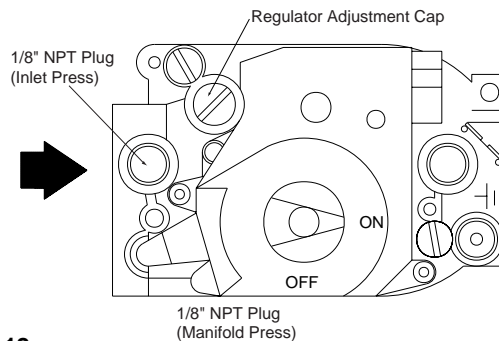

Figure 12.
3. Remove 1/8 in. NPT plug on the outlet side of the valve and screw in the fitting from the manometer kit. See Figure 12.